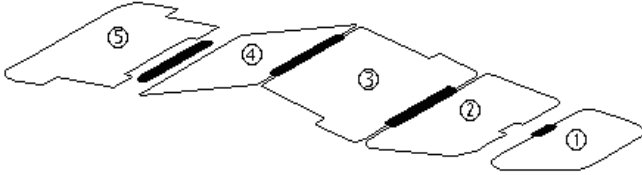

Fig.8
6.7. Set segments No.3 and No.4 as shown in the figure 8. Thereat, check to ensure that the segment edges fall between the planes of the removable stops. Make sure that the edges of the remaining segments fall within the folding line of the balloon and bottom connecting tape. If necessary, take hold of the lifeline to adjust the balloon position.